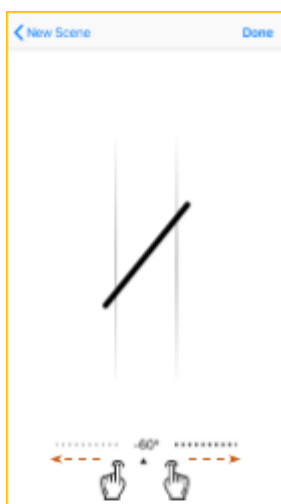

Figure 27
**Tilt By** – change the solar panels tilt angle by dragging “points” on the “virtual window” (available only if **MAX. Efficiency** is disabled) (Fig. 27).